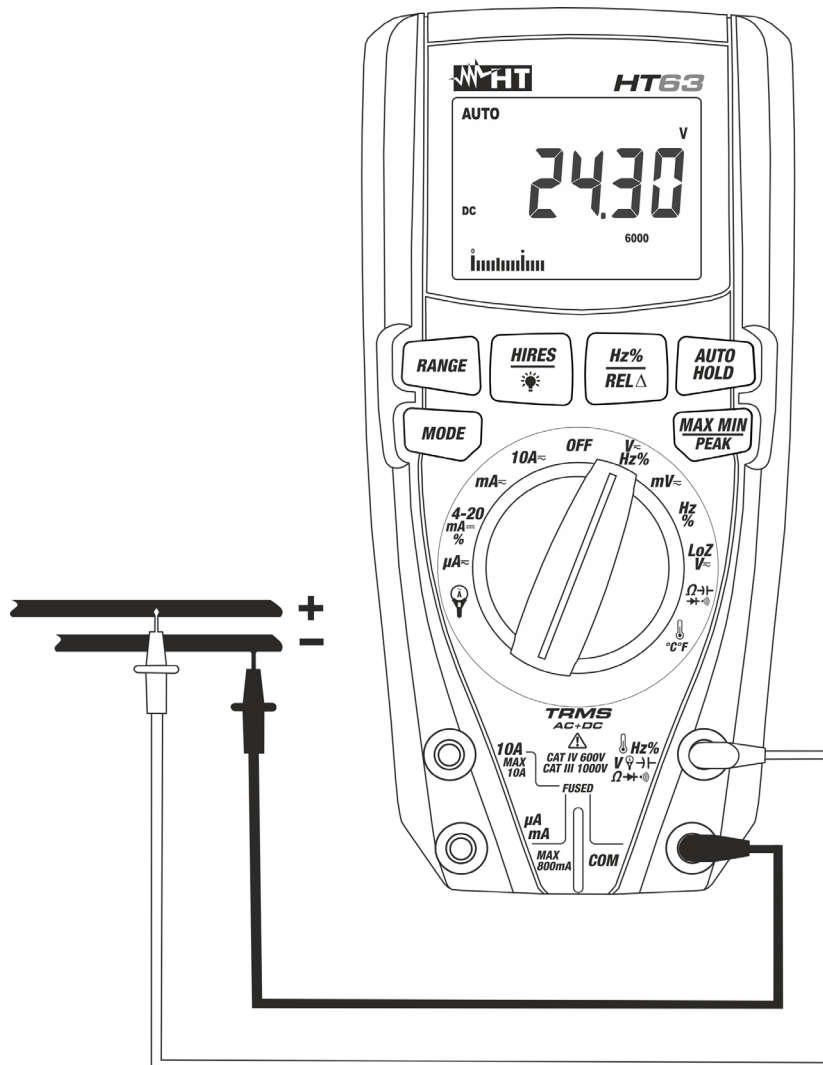

Fig. 2: Use of the instrument for DC Voltage measurement
3. Position the red lead and the black lead respectively in the spots with positive and negative potential of the circuit to be measured (see Fig. 2). The display shows the value of voltage.
5. When symbol "-" appears on the instrument's display, it means that voltage has the opposite direction with respect to the connection in Fig. 2.
4. Position the red lead and the black lead respectively in the desired spots of the circuit to be measured (see Fig. 4) or in the spots with positive and negative potential of the circuit to be measured (see Fig. 2). The display shows the value of voltage.
6. When symbol “-” appears on the instrument’s display, it means that voltage has the opposite direction with respect to the connection in Fig. 2